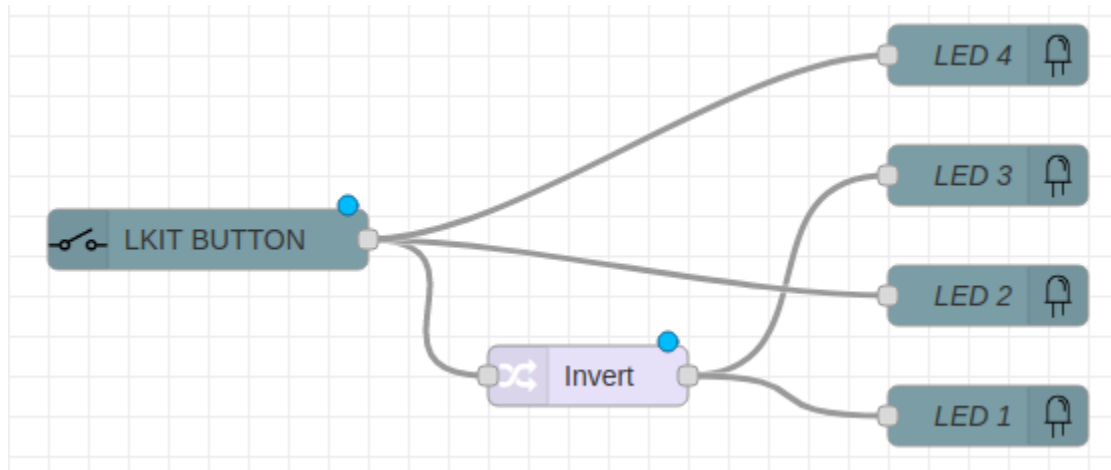

Figure 4-41: Warning Light Example
Once you have convinced yourself that your flow is working it is time to combine it with the Warning Light Flow from Figure 4-41. The Alternating 1 and 0 flow is going to generate a stream of payloads with alternating ones and zero. In the Warning Light flow the pushbutton did this, albeit manually. It sure looks like it would be simple to combine the two flows. Start here
- Copy all the nodes from your Warning Light Flow to The Alternating 1 and 0 flow from Figure 4-41.